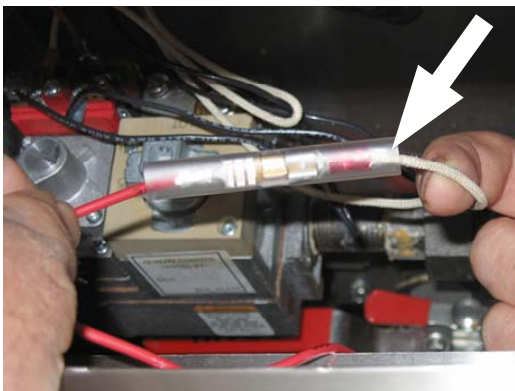

Figure 3: Plug the white wire into the inline connector.
3. Plug the white wire removed from the valve into the inline connector opposite the red wire (Figure 3).